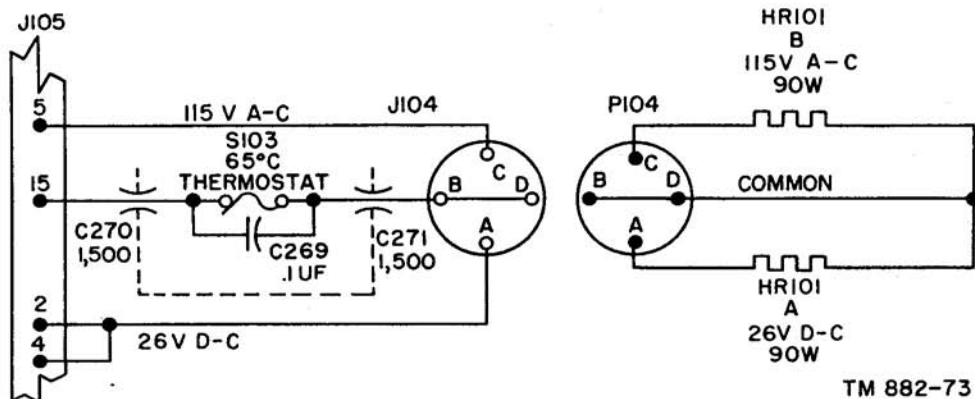

Figure 21. Oscillator heater assembly.
e. *Heater Element* (fig. 21). The oscillator is kept at a constant temperature of 149° Fahrenheit (65° C.) by the oscillator heater element, which is composed of two sections. The B section is supplied with 115 volts ac by Power Supply PP-660/URR. When a dc power supply is used, the A section of the heater is supplied with 26 volts dc. In either case, the heater dissipates 90 watts while operating. The temperature is regulated by S103, the 65° C. thermostat.